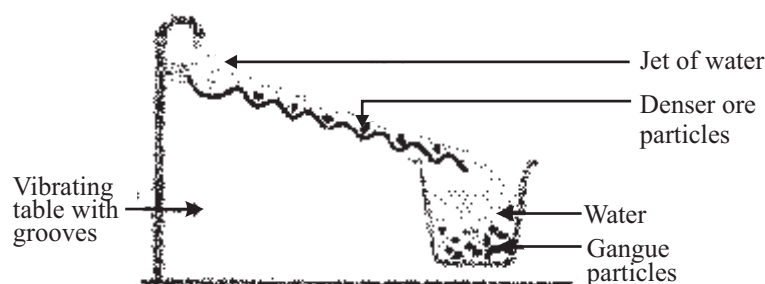

Fig. 16.3 : Gravity Separation (Hydraulic Washing)
- (i) **Gravity separation (Hydraulic washing) :** In this method, the light (low specific gravity) earthy impurities are removed from the heavier metallic ore particles by washing with water. It is therefore, used for the concentration of heavier oxide ores, like haematite (Fe_2O_3) tinstone (SnO_2) and gold (Au). In this method, as shown in the Fig. 16.3 the powdered ore is agitated with